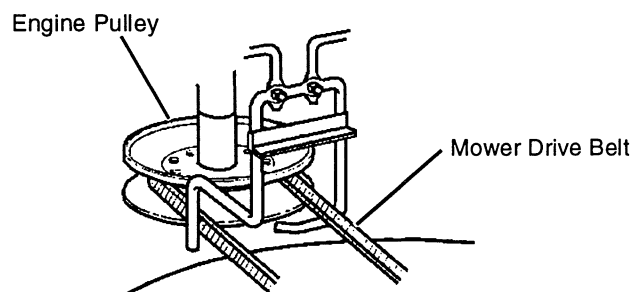

FIG. 52
- Install mower drive belt on engine pulley. (See Fig. 52)
38 Inch Mower Deck: (See Figure 52 and 53)
46 Inch Mower Deck: (See Figure 52 and 54)